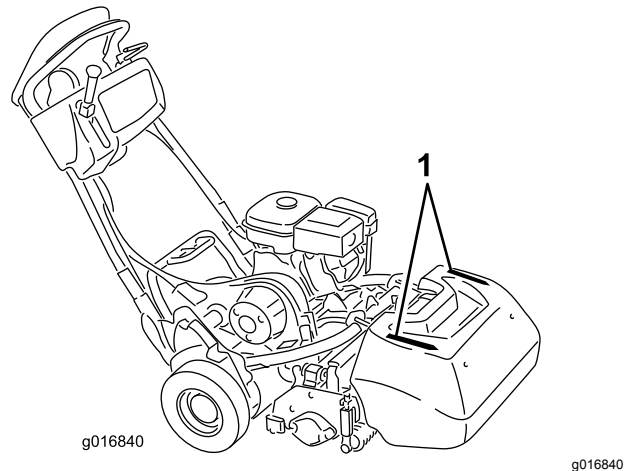

Figure 31
- To assist in maintaining a straight line across the green and to keep the machine an equal distance from the edge of the previous cut, use the alignment stripes on the basket (Figure 31).